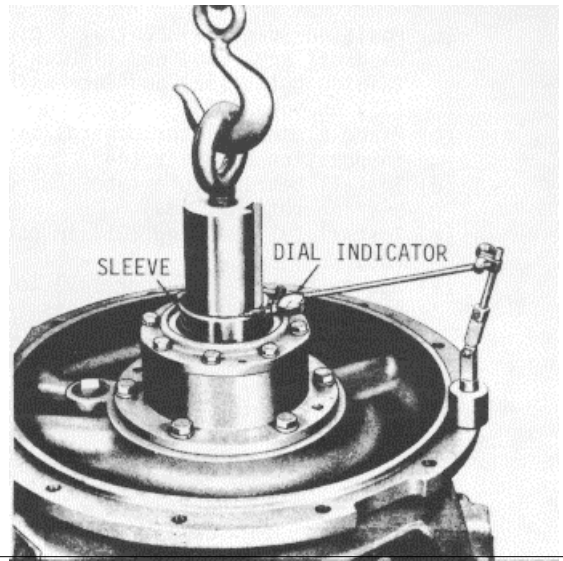

Fig. 38
- (3) Install an eyebolt in the rear end of the output shaft. Using a hoist, raise the converter high enough to be sure that all the weight of the converter is on the output shaft (Fig. 38).
- (4) The indicator reading is the end play of the output shaft (Fig. 38). The end play must be at least 0.004 inch (0.1016 mm) but not over 0.006 inch (0.1524 mm).
- (5) If the end play is less than 0.004 inch (0.1016 mm), remove the bearing retainer and add a sufficient amount of shims to the shim pack to bring the end play within the required limits. If the end play exceeds 0.006 inch (0.1524 mm), remove a sufficient amount of shims from the shim pack to bring the end play within the required limits.